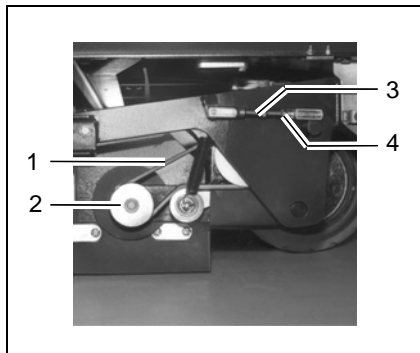

Fig. 38
5. Loosen the counternuts (Fig. 38/3) on both sides of the vehicle.
6. Turn the adjusting device (Fig. 38/4) on both sides of the vehicle as described below:
9. Tighten the counternuts (Fig. 38/3) on both sides of the vehicle.